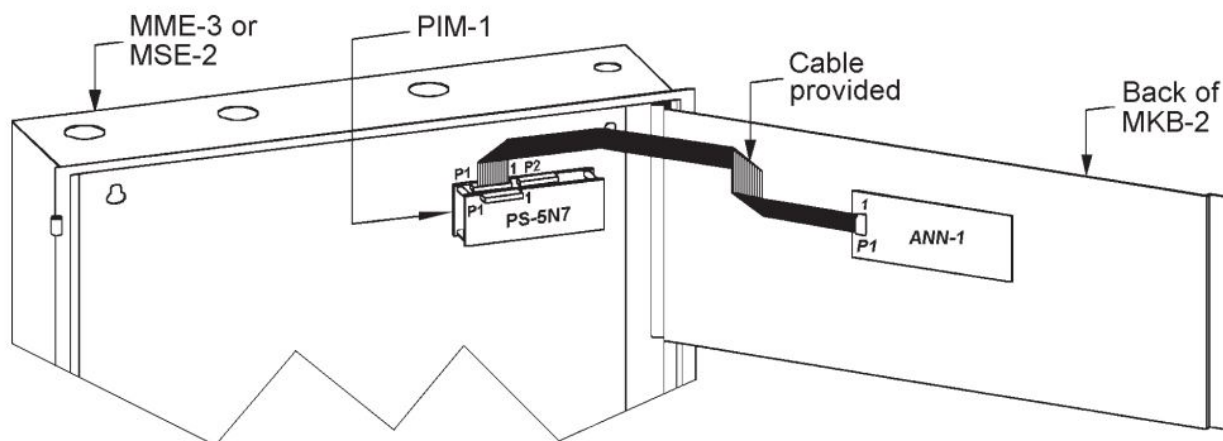

Figure 3
When using a PIM-1 with the PS-5N7 in an MME-3 or MSE-2 backbox (See Figure 3):
7. Plug the cable from P2 of the PIM-1 into P1 of the PS-5N7; see Figure 3.